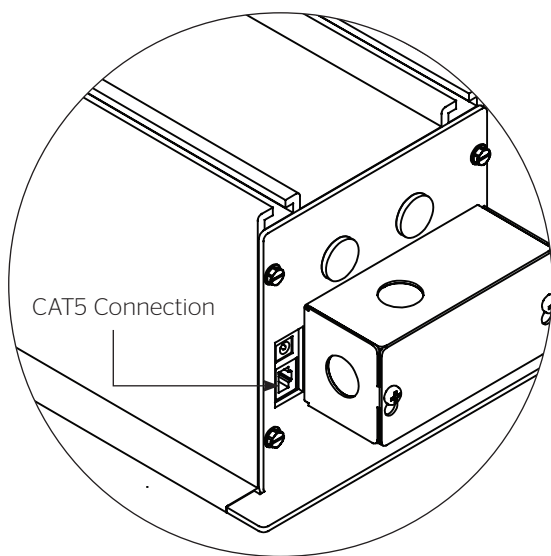

Figure 1
1. Plug your CAT5 cable into connection port located on the left end of the ViewShare Advantage (Figure 1).